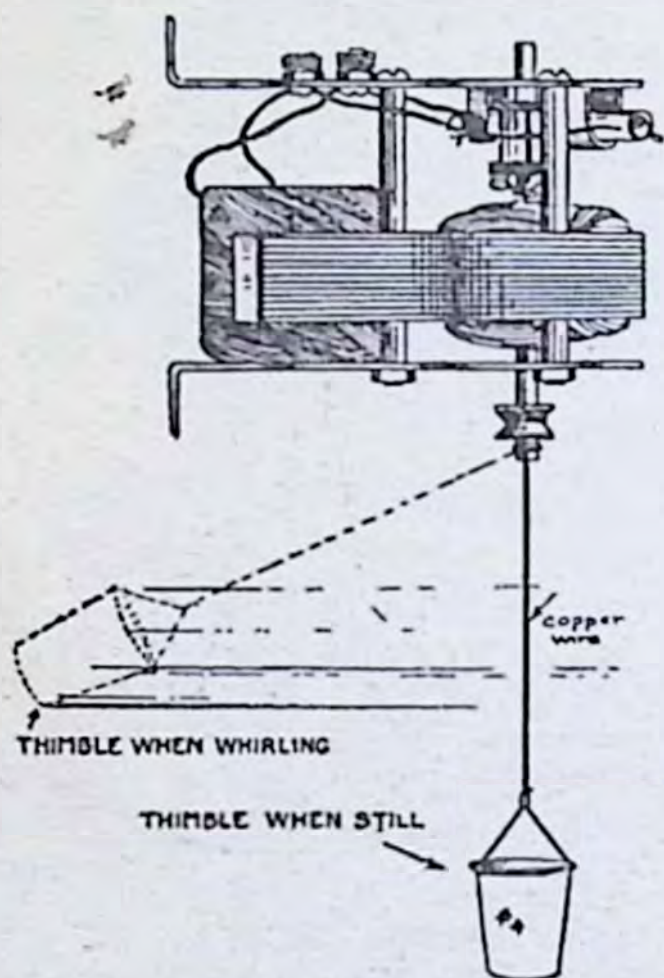

Fig. 28
(34) **THE PAIL OF WATER THAT JACK CAN'T SPILL:** Fix a piece of No. 24 copper wire around the top of a thimble to form a bail on it as shown in Fig. 28. Suspend the little bucket thus made by a string from the end of the shaft of your motor and hold the latter so that the